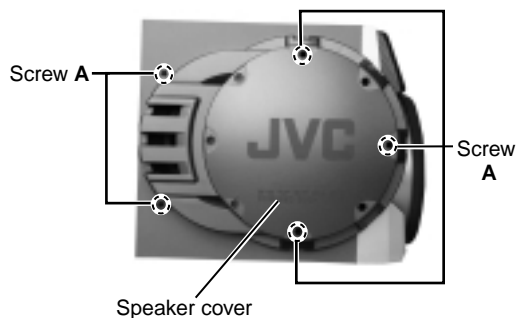

Fig.1
■ Removing the speaker cover (See Fig.1)